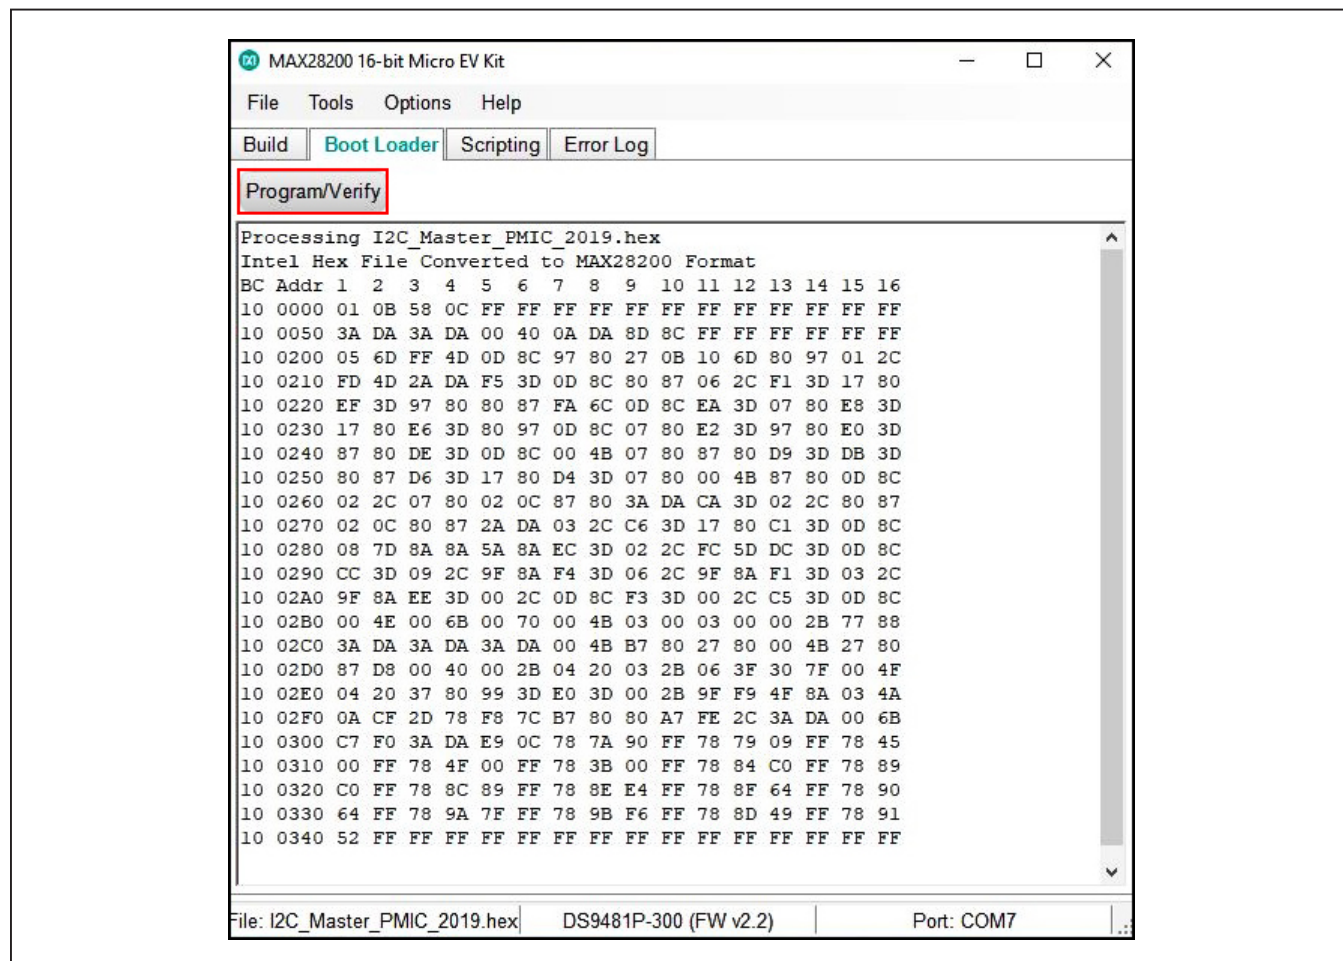

Figure 16. Program the Device with the Data Pattern
- 6) The data pattern appears (Figure 16). Click the **Program/Verify** button to program the MAX28200.